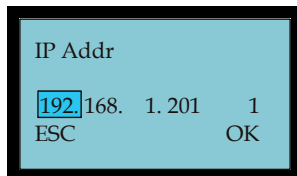

Figure 2-109 Enter IP Address
2. Enter the desired IP address (see **Figure 2-109**) by using “▲/▼” to move forward or backward and the keypad to enter a number.